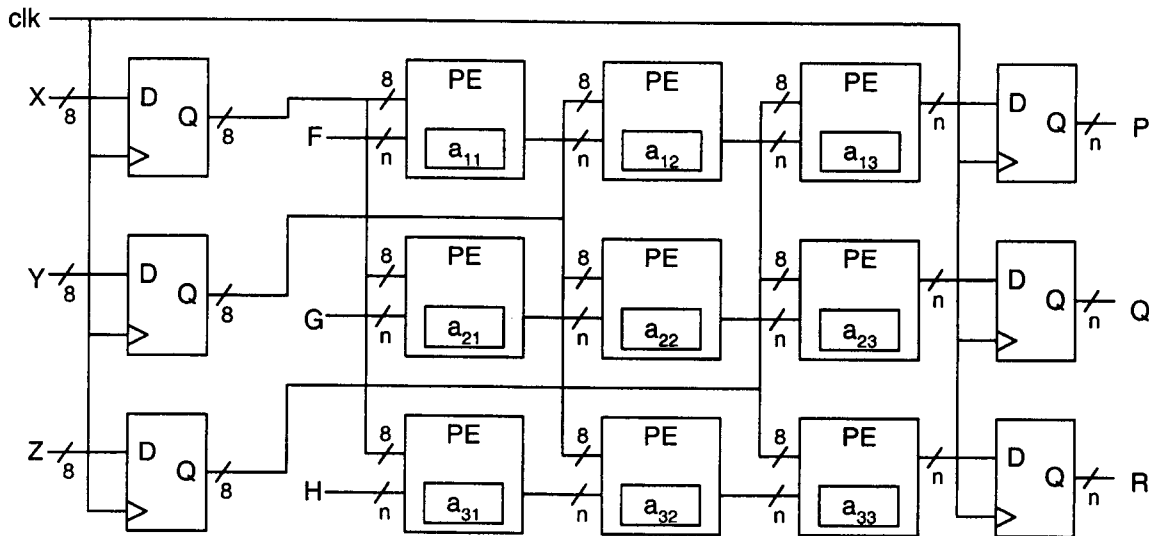

Figure 7.1
Figure 7.1 shows a circuit that performs the computation. It uses nine identical processing elements (PEs), each consists of a 2-bit register preloaded with the coefficient a_{ij} , one n -bit binary adder and other circuitry.
- c) Assuming that the binary adder delay is 5 ns, the delay through any two-input gate or multiplex is 1 ns, the setup and clock-to-output delay of the D flip-flop are both 1 ns, determine the maximum clock frequency for the circuit in Figure 7.1 circuit. [4]